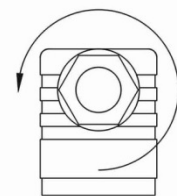

Fig. 9
- ↪ Loosen the screwed cable gland ⑤ M16x1,5 (→ Fig. 9).